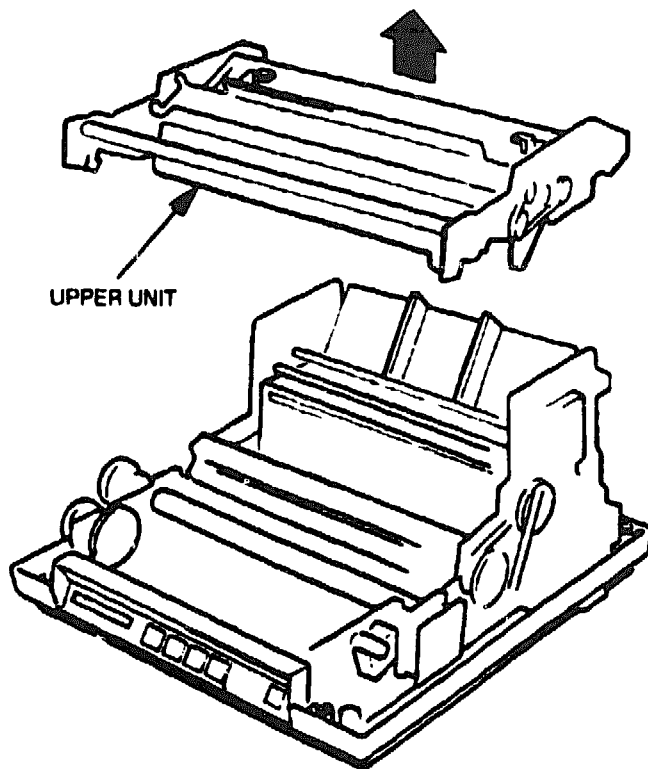

Figure 6-58 Upper Unit Removal
8. As shown in Figure 6-58, lift the upper unit off the printer.